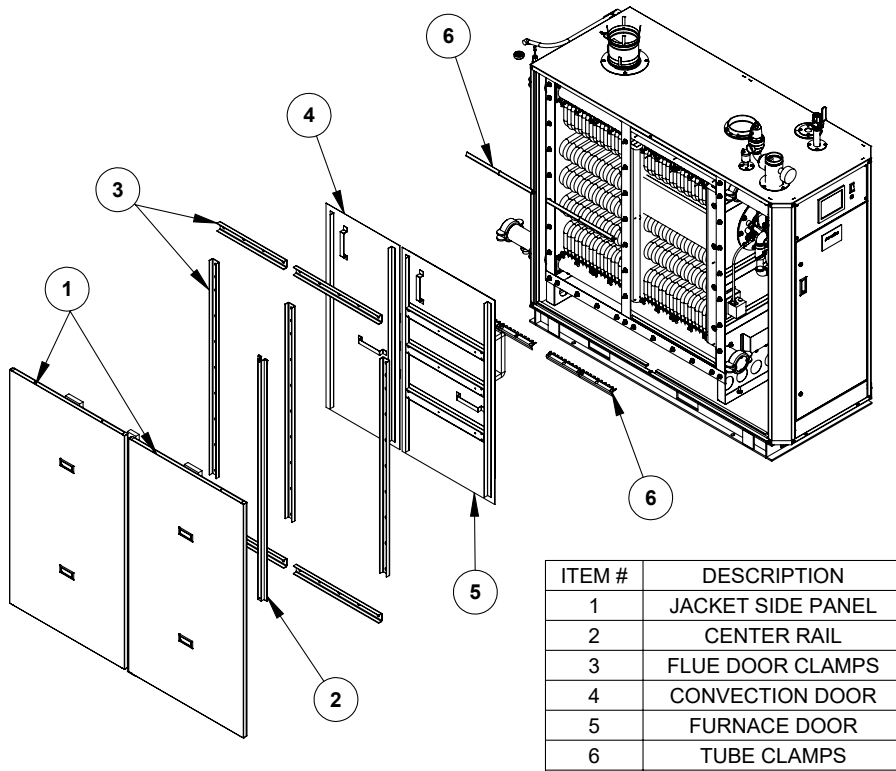
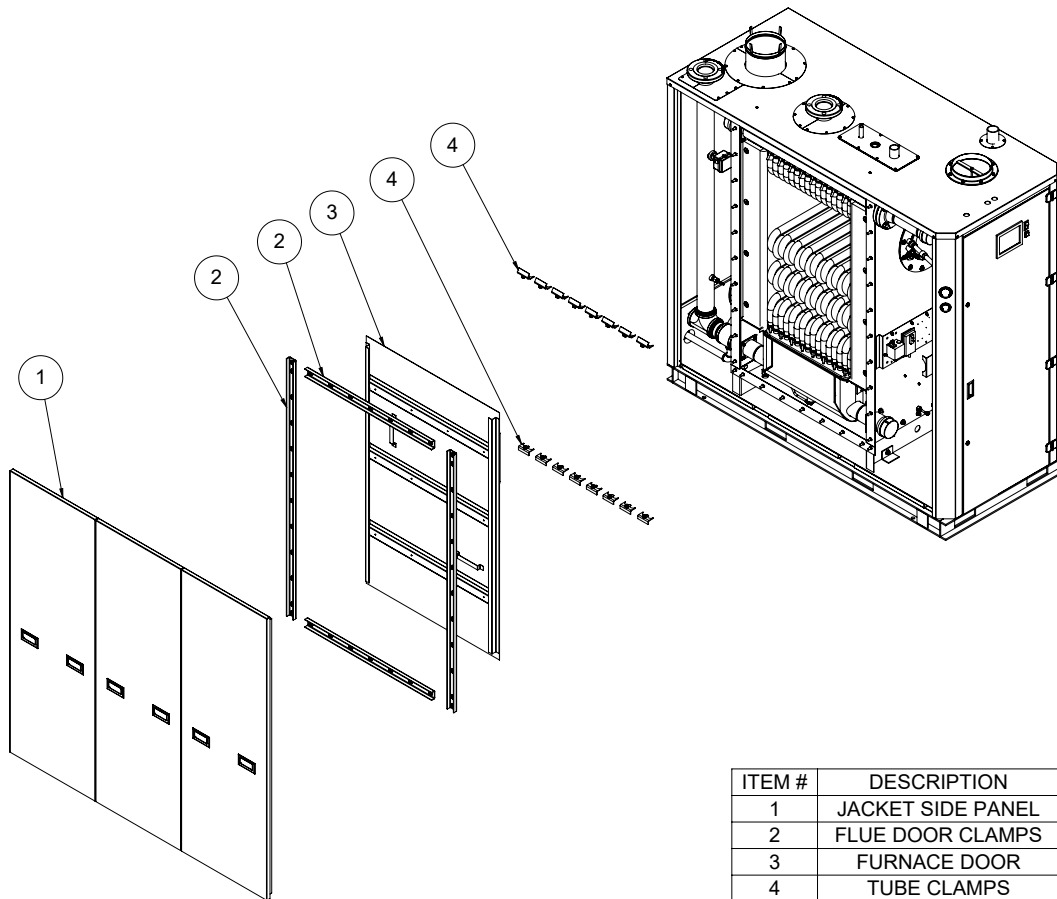
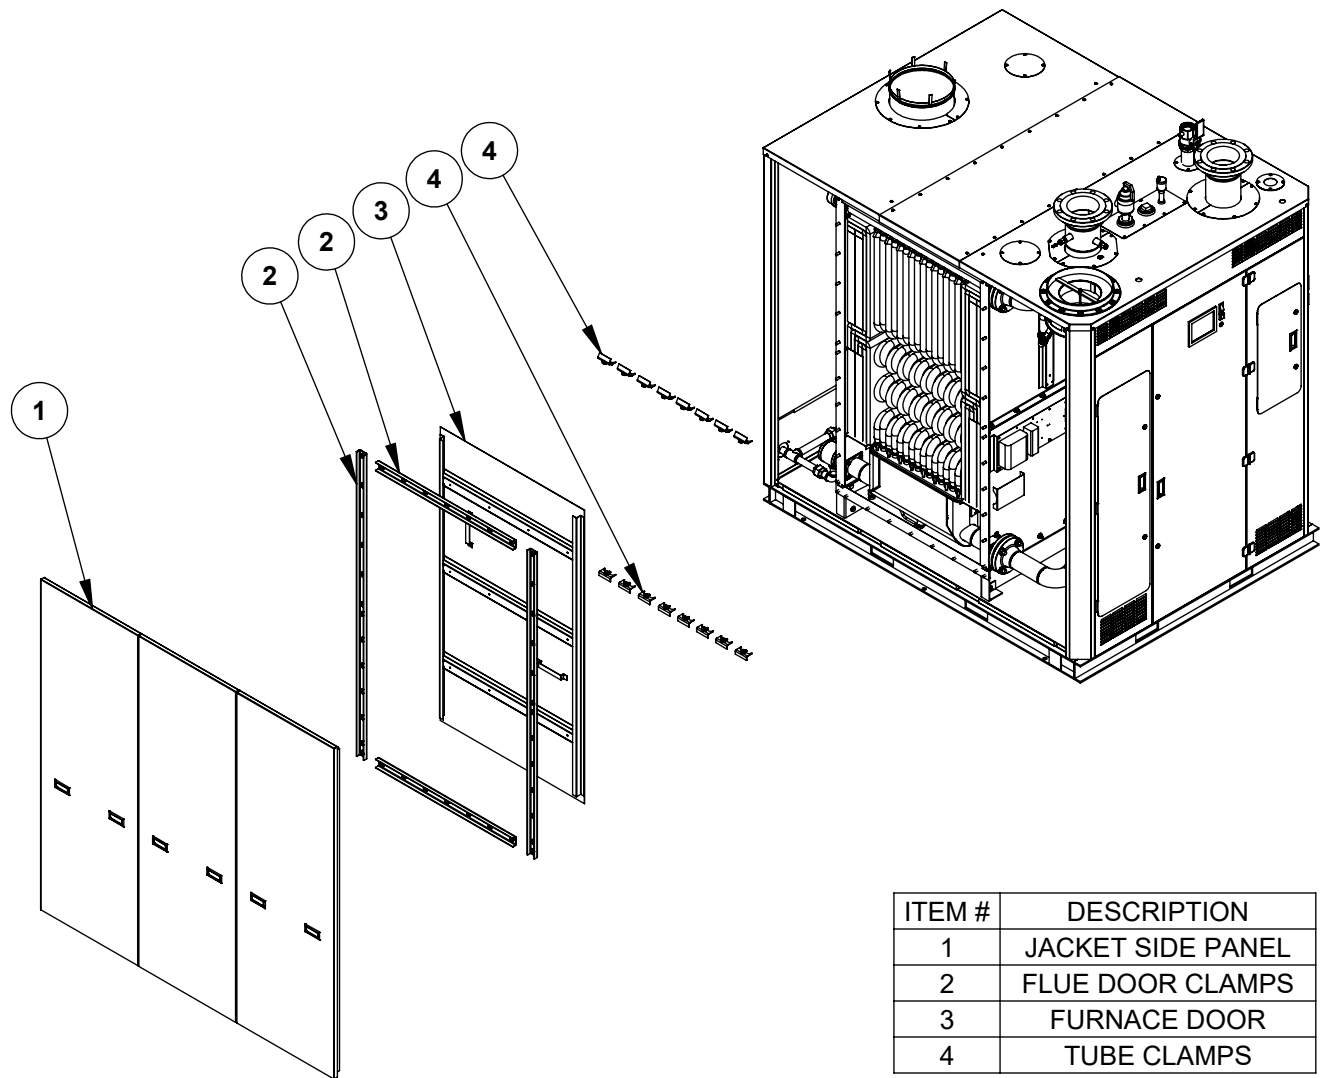

Figure 17: Panel Removal in Preparation for Tube Inspection - 1000
Figure 18: Panel Removal in Preparation for Tube Inspection - 1500 - 3000
Figure 19: Panel Removal in Preparation for Tube Inspection, 3000 - 6000
- d. Remove the boiler's left side jacket panels and flue collector access panels as shown in Figure 17, Figure 18, and Figure 19.